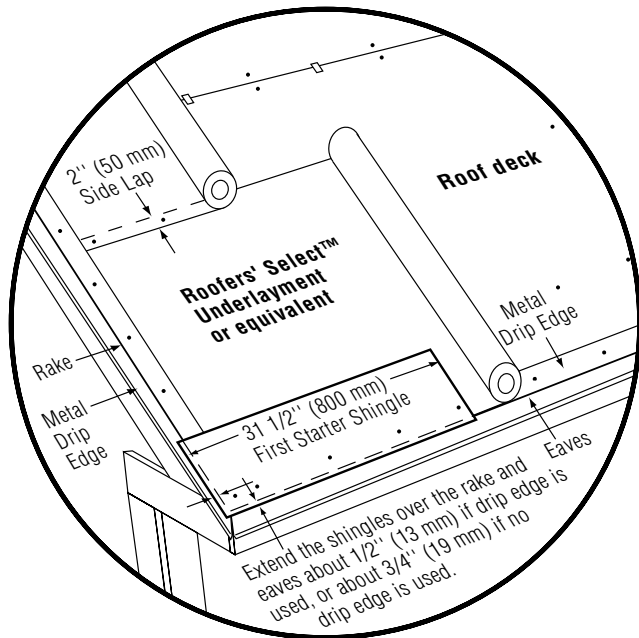

Figure 19-8: Standard slope underlayment and starter drip edge details.
- For all three shingle styles, cut $4\frac{1}{2}$ " off the length of the left side of the first starter strip and apply at the lower left corner of the roof. This $31\frac{1}{2}$ " starter strip should overhang the rakes and eaves $\frac{1}{2}$ " when drip edge is used or $\frac{3}{4}$ " when no drip edge is used. Continue with full 36" lengths of starter strips all along the eaves (Figure 19-8).